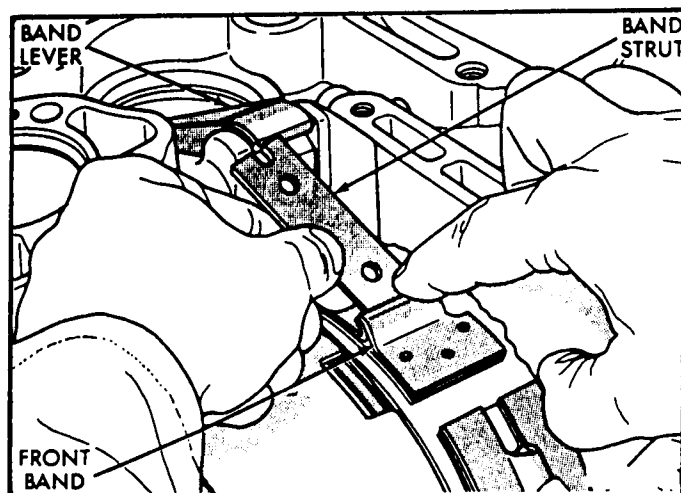

Figure 140
25. Install the front band strut, as shown in Figure 140.